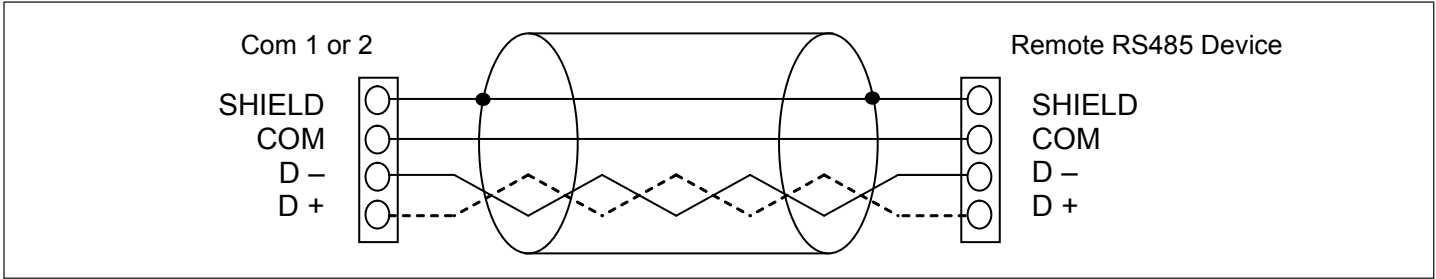

Figure 72. Two Data-Wire RS485 Connection.
Figure 72 shows the detail of a two Data wire RS485 connection with separate common and shield.
- Connect common to RS485 Master and individual devices as shown in **Figure 72**. If separate common is not available, jumper the slave common connection to shield on the terminal connection.
The RS485 cable attaches to the Com port terminals Shield/Common/Data-/Data+ as shown in **Figure 72**.